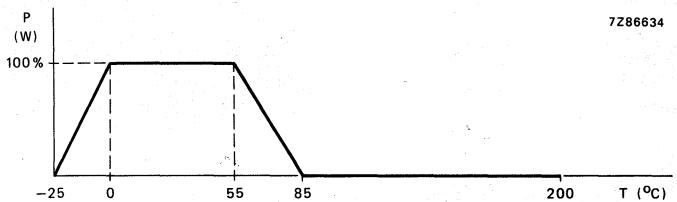

Fig. 2 Derating curve.
- Operating temperature range (Fig. 2)